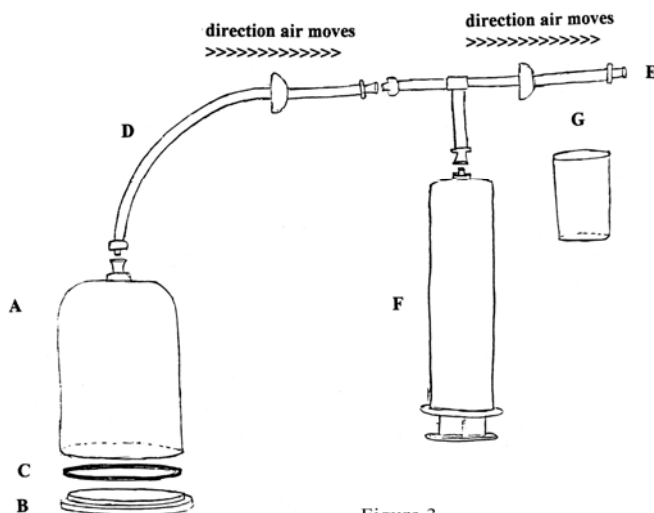

Figure 3
5. Place the vial on the bottom plate, inside the bell jar. Assemble the apparatus as shown in Figure 3. Have someone hold the bell jar in position so it does not tip over. Start pumping the piston and watch the vial of water. Something should happen after several strokes of the piston. What happens?
7. Keep pumping until there is no further effect. Then slowly loosen the connection between hose (D) and the bell jar. Now open the bell jar and check the temperature of the water. What has happened? Can you explain the change?